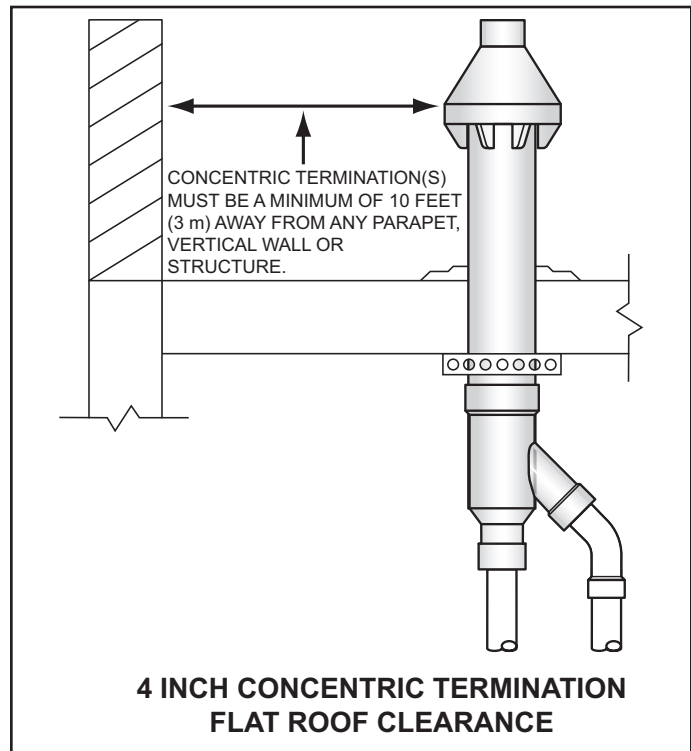
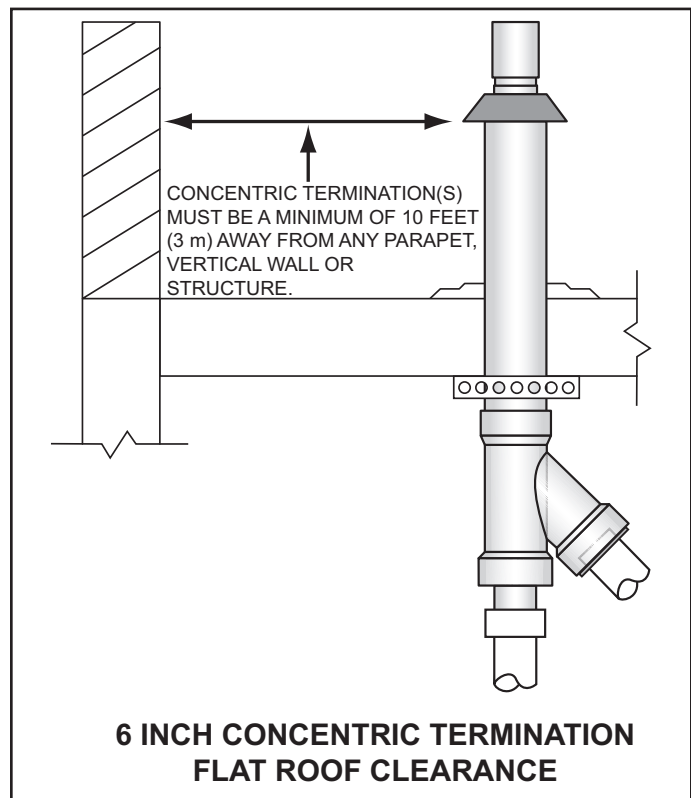

Figure 24
Figure 25
4. When installing a concentric termination vertically through a flat roof, the termination's vent cap must be a minimum of 10 feet (3 m) away from any parapet, vertical wall or structure as shown in Figure 24 and Figure 25.